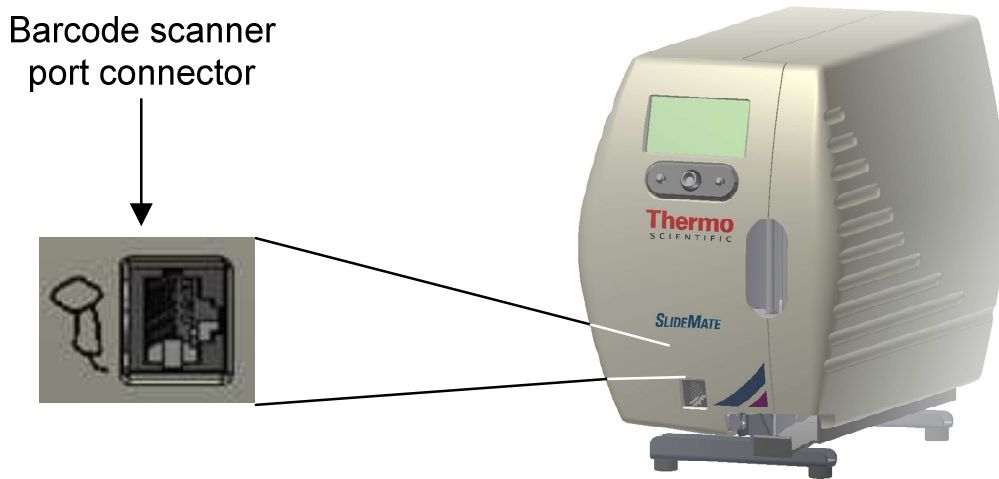

Figure 1 - Barcode scanner connection
- **Select Port**, SlideMate has 3 input ports (**Figure 1 and 2**)